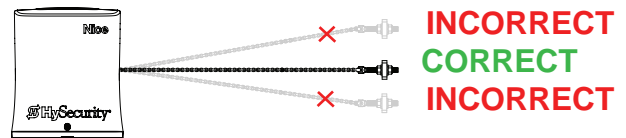
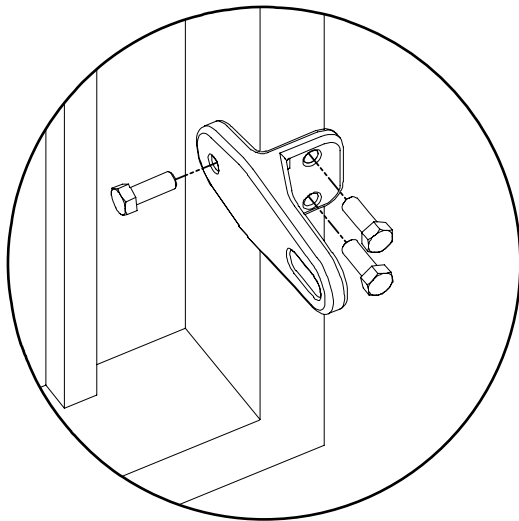
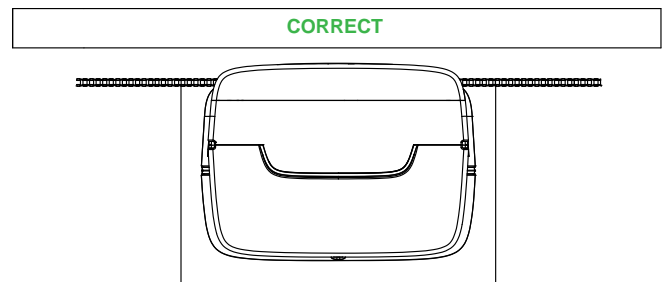

Figure 14. Correct Bracket Height
Figure 13. Attach Gate Bracket
Figure 17. Correct Distance to Gate
6. Alternatively, weld the gate brackets in place (Figure 13 and Figure 14).
12. Chain must be parallel to ground and gate (Figure 14, Figure 17, Figure 18).